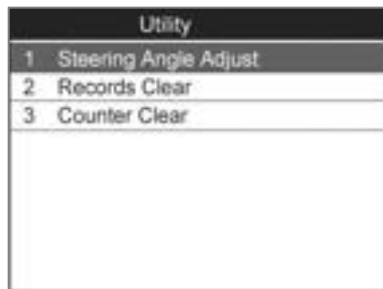

Figure 10.11
- 1) From the **Utility** function menu (Figure 10.11) use the **UP/DOWN** scroll button to select **Steering Angle Adjust** and press the **OK** button.
- 1) From the Utility function menu (Figure 10.11) use the **UP/DOWN** scroll button to select **Records Clear** and press the **OK** button.
- 1) From the Utility function menu (Figure 10.11) use the **UP/DOWN** scroll button to select **Counter Clear** and press the **OK** button.